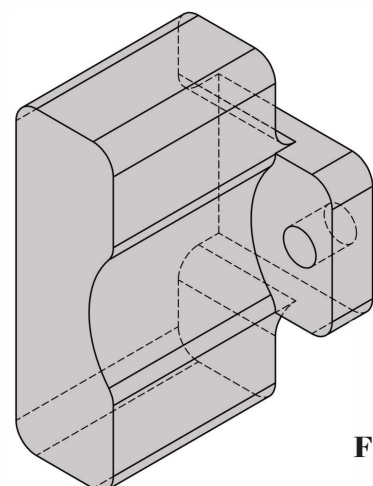

FIG 19.
- Once the sliding door track has been fitted and held in place, the wall anchor blocks can be moved into position towards the wall (**FIG 19**).